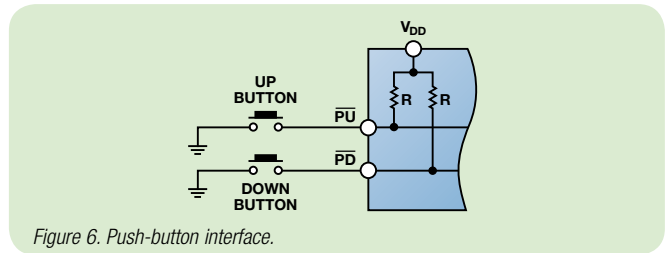

Figure 6. Push-button interface.
- **Push-Button**—the user can interact directly with the system by just adding two push-button switches. Press the UP button to increment the resistance and DOWN to decrement resistance (see Figure 6).